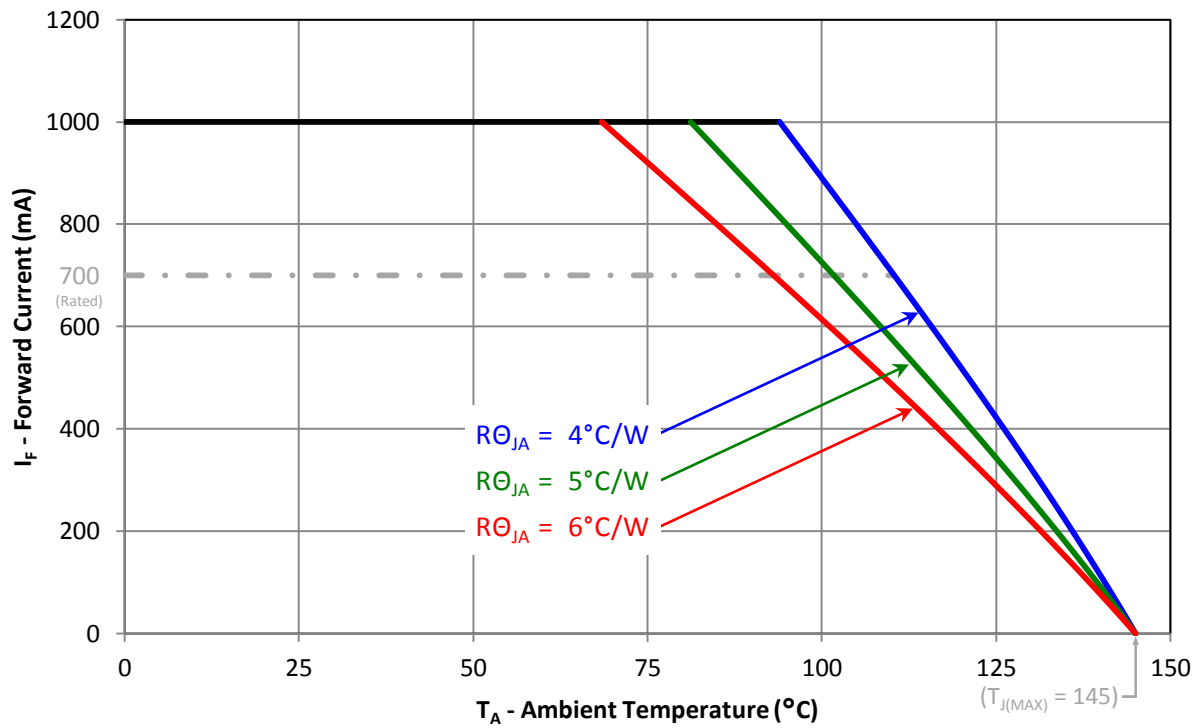

Figure 11: Maximum forward current vs. ambient temperature based on $T_{J(\text{MAX})} = 145^\circ\text{C}$.
- Maximum DC forward current (per die) is determined by the overall thermal resistance and ambient temperature. Follow the curves in Figure 11 for current derating.